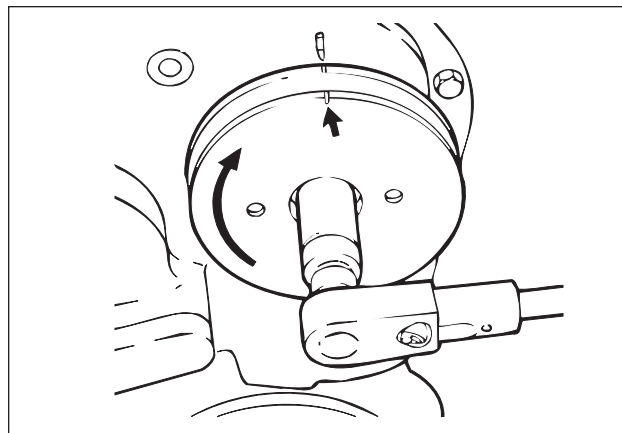

FIG. 1
1. Rotate crankshaft by turning accessory drive shaft in direction of rotation (clockwise, see Fig. 1). Align the "A" valve set mark on the accessory drive pulley with the pointer on the gear cover. Check the intake and exhaust valves of cylinder No. 1. All valves must be closed (both crossheads loose) to make adjustments. If the valves are not closed, rotate the engine one complete revolution. The engine is now ready for valve and injector adjustments that will be made later.